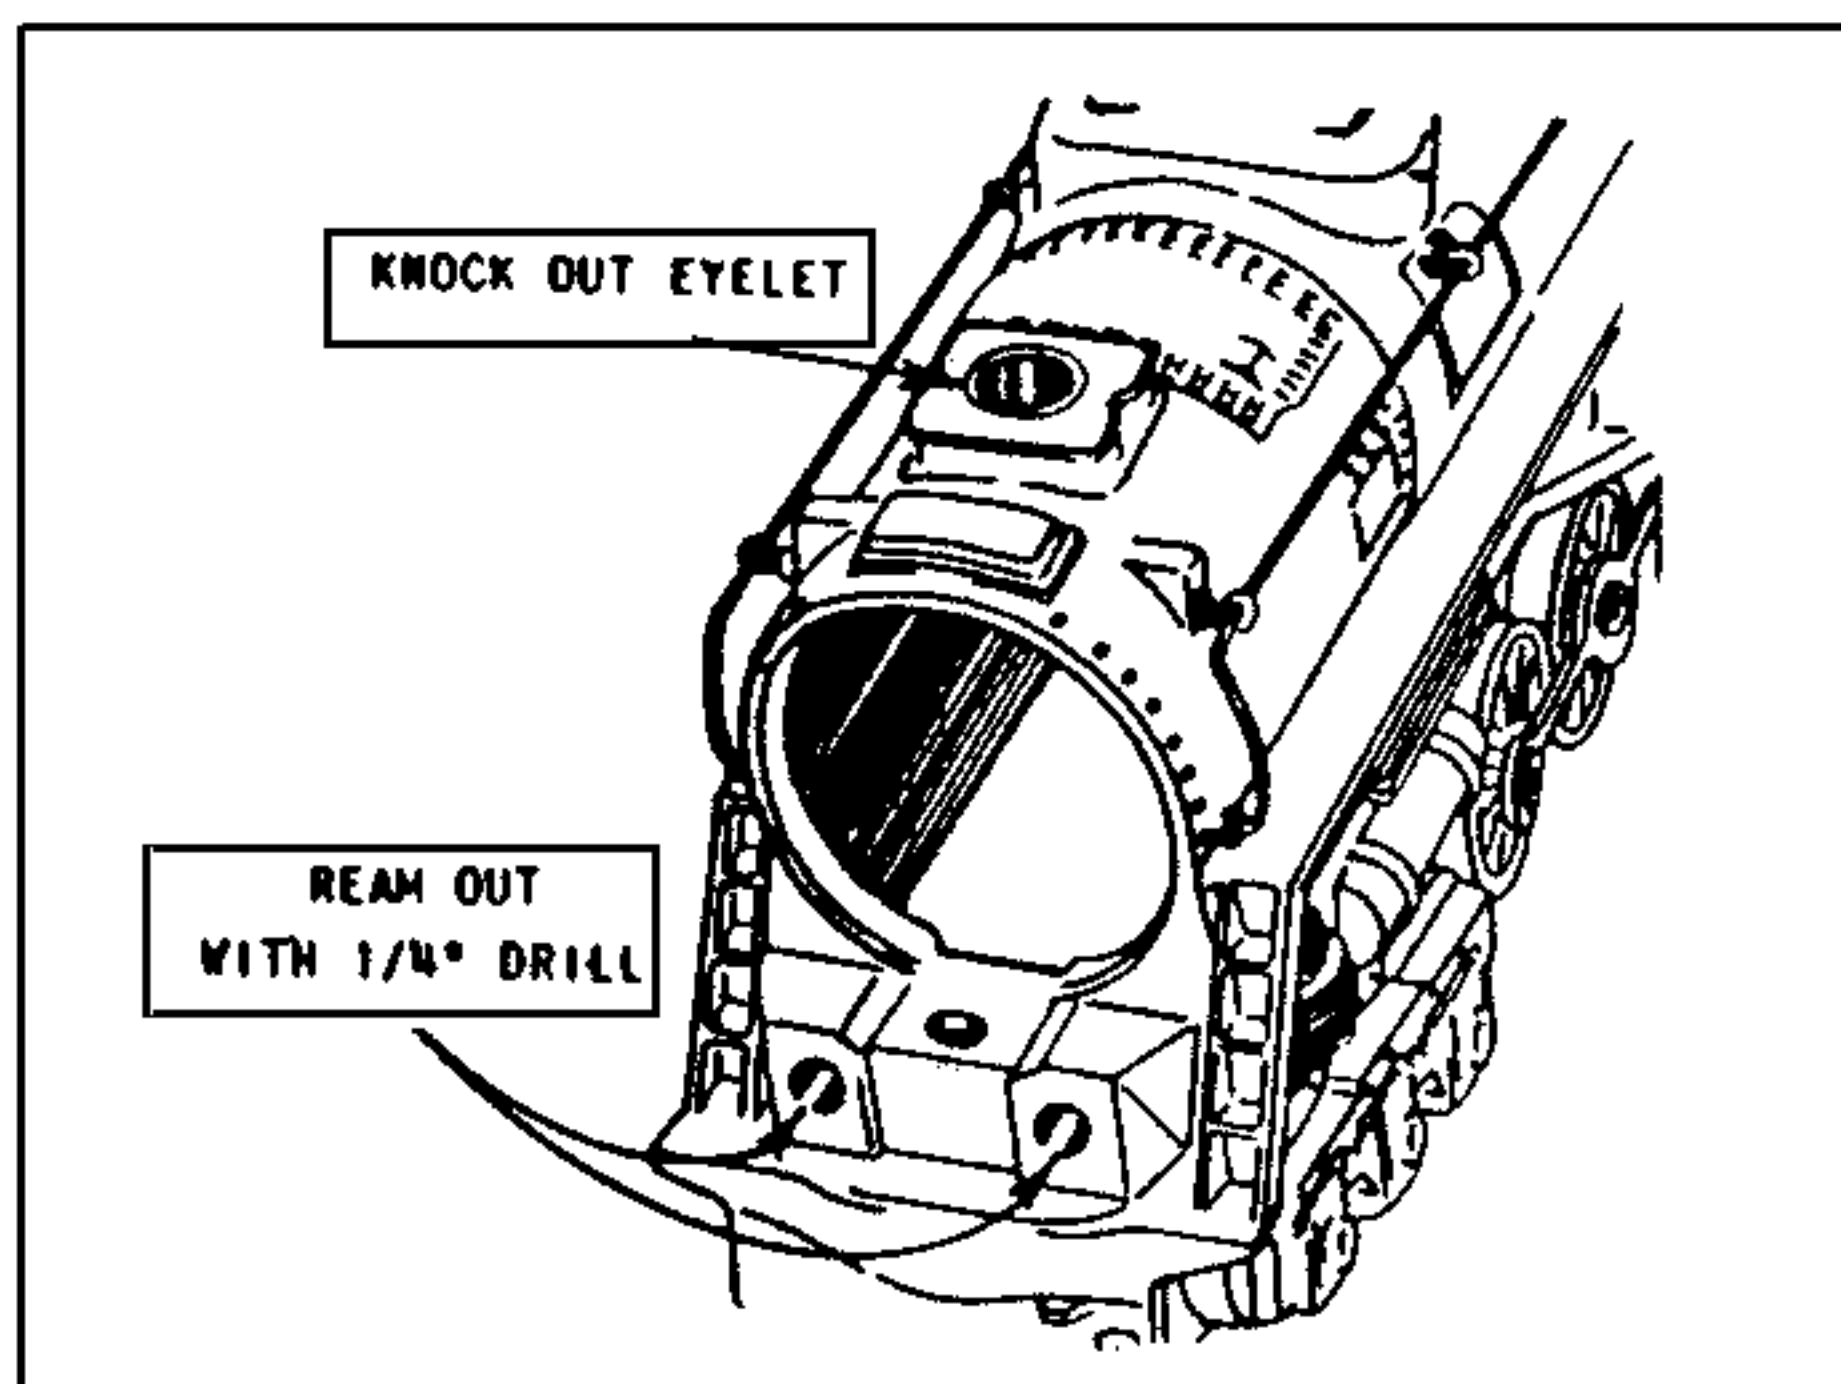

Figure 1 - How to adapt locomotive casting to heater-type smoke generator.
1. Remove boiler casting. Knock out eyelet in smoke stack. Using a 1/4" drill ream out prong holes in the front of the casting 5/16" deep to accommodate the heavier prongs of Boiler Front Assembly, 671-196. (See Figure 1).